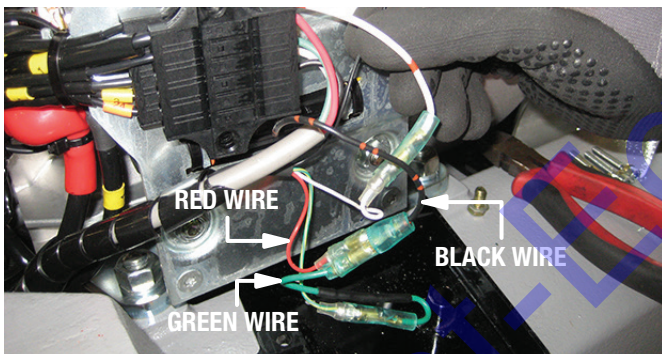

Figure 23. Existing Wiring Disconnection (MVH508DZ)
7. Locate the electrical connector that has a red wire and a green wire on one side, and a black wire on the other side (Figure 23). Disconnect the red and green wires.